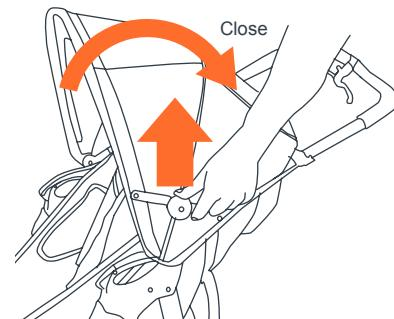

Fig. 9
- 9)** • To fold the canopy: pull upwards on the tensioners and then pull backwards on the front edge (Fig. 9).